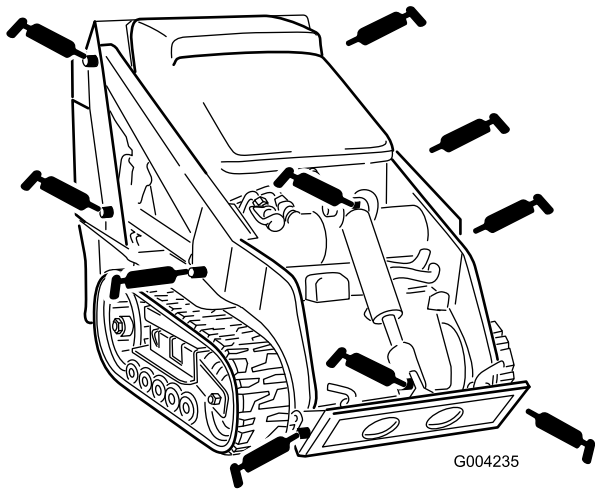
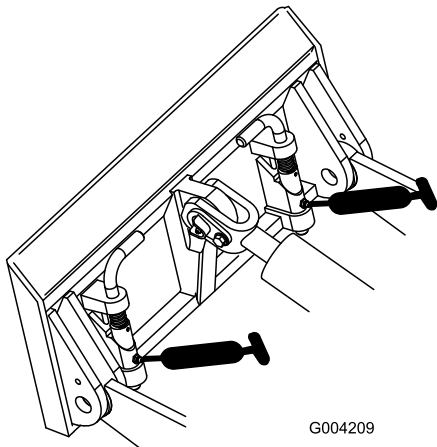

Figure 34
Figure 35
3. Connect a grease gun to each fitting (Figure 34 and Figure 35).